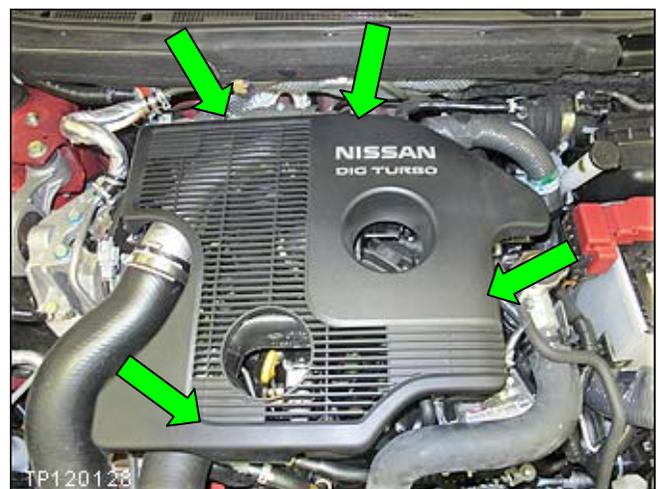

Figure 2
- Use hand pressure to carefully pull up at the mounting locations shown in Figure 2.